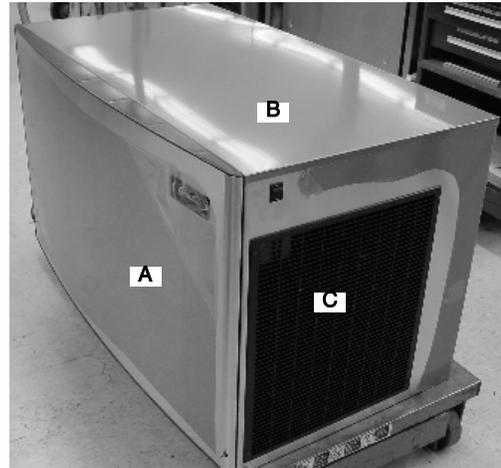

Figure 7.
2. Remove the front panel cover (A) top cover (B) and louvered side panel (C) (FIGURE 7).